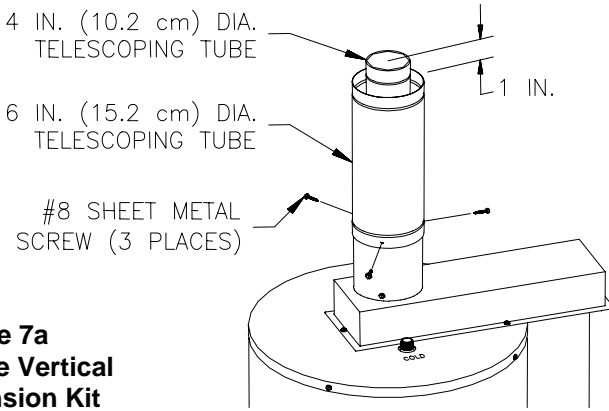

Figure 7a
6. Extend the six (6) inch (15.2 cm) diameter telescoping tube(s) until it is one (1) inch (2.5 cm) below the top of the four (4) inch (10.2 cm) diameter telescoping tube(s). Drill three (3) 1/8 inch (3.2 mm) diameter holes, 120° apart, through the six (6) inch (15.2 cm) diameter telescoping tube(s) at the joint(s) where the small and large sections overlap. Fasten with three (3) #8 sheet metal screws (supplied). (See Figure 7a or 7b).